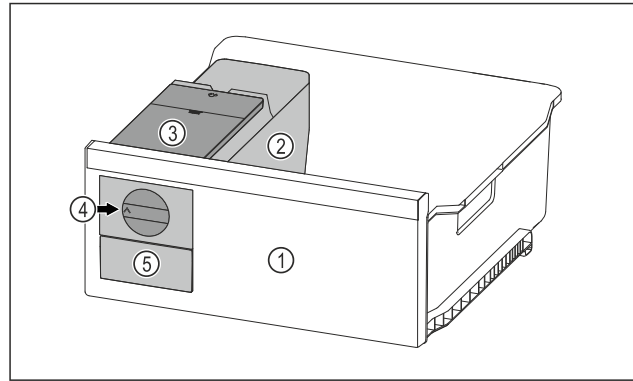

Fig. 69 Example illustration
- Turn the rotary knob Fig. 69 (4) clockwise as far as it will go.
- Ice cubes fall from the ice cube tray into the ice cube drawer Fig. 69 (5).